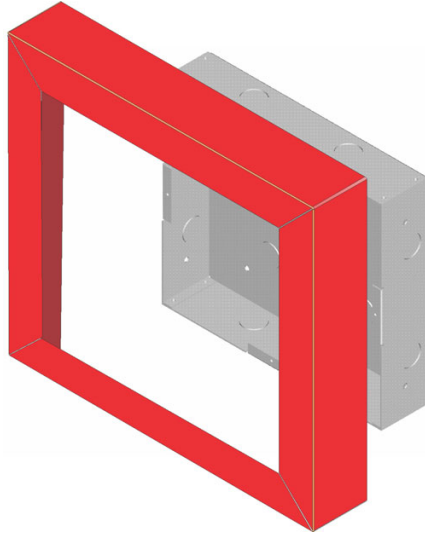

Figure 4.14 Installing Trim Ring
4. Place the trim ring over the back box as shown in Figure 4.14.